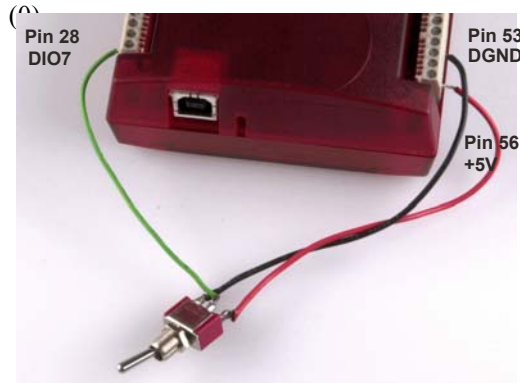
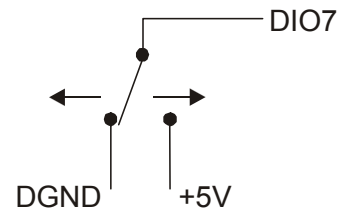

Figure 8. DIO7 detecting the state of a switch
Figure 9. Schematic showing DIO7 detecting the state of a switch
When you configure the digital bits for input, you can use the digital I/O terminals to detect the state of any TTL level input. Refer to the switch shown in Figure 8 and the schematic shown in Figure 9. When the switch is set to the +5 V USER input, DIO7 reads *TRUE* (1). If you move the switch to DGND, DIO7 reads *FALSE*